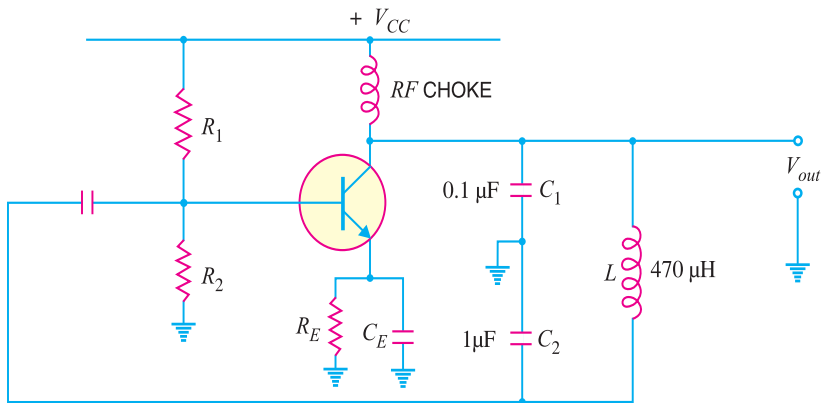

Fig. 14.24
1. Figure 14.24 shows the Colpitt's oscillator. Determine the (i) operating frequency and (ii) feedback fraction. [(i) 24.5 kHz (ii) 0.1]
3. For the Colpitt's oscillator shown in Fig. 14.24, $C_1 = 750 \text{ pF}$, $C_2 = 2500 \text{ pF}$ and $L = 40 \mu\text{H}$. Determine (i) the operating frequency and (ii) feedback fraction. [(i) 1050 kHz (ii) 0.3]